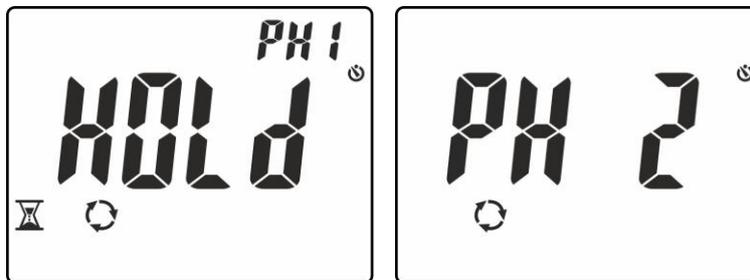

Fig. 12: Detecting phase L1 and waiting for phase L2
4. In conditions of correct voltage and frequency, the instrument shows message “**HOLD**”, symbols ⏸ and “PH1” and the buzzer sounds continuously, waiting for a stable voltage value on phase L1 to be detected (see Fig. 12 – left side).
5. **Do not remove the lead from phase L1** until message “**PH 2**” appears flashing on the display (see Fig. 12 – right side)